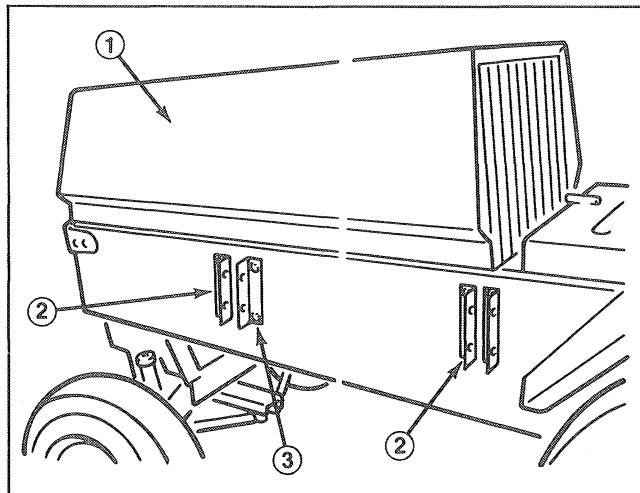

Figure 3
1. Position brackets over existing mounting holes as shown in Fig. 3. Mount brackets using (1) 3/8-16 x 2" lg. capscrews, (7) 3/8-16 x 1-1/4" lg. capscrews (8) 5/16 washers, and (8) 3/8-16 locknuts.